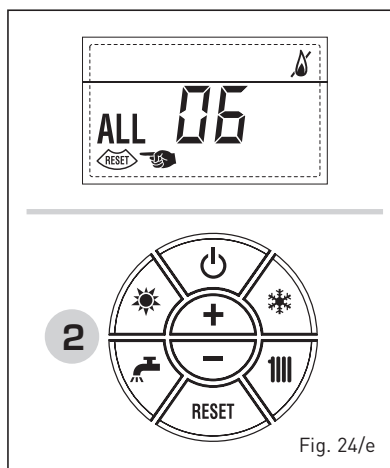

Fig. 24/e
– **SAFETY THERMOSTAT ANOMALY ALARM 07 (fig. 24/f)**